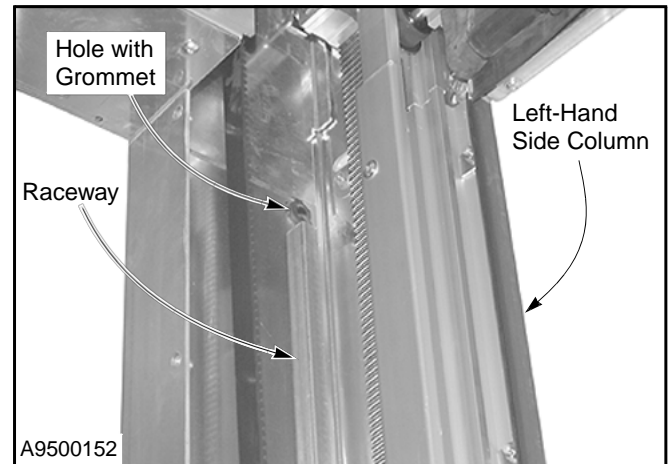

Figure 41
6. Route the left-front photo eye cable out the hole that is lined with the rubber grommet. This hole is located just above the raceway. (See Figure 41.)